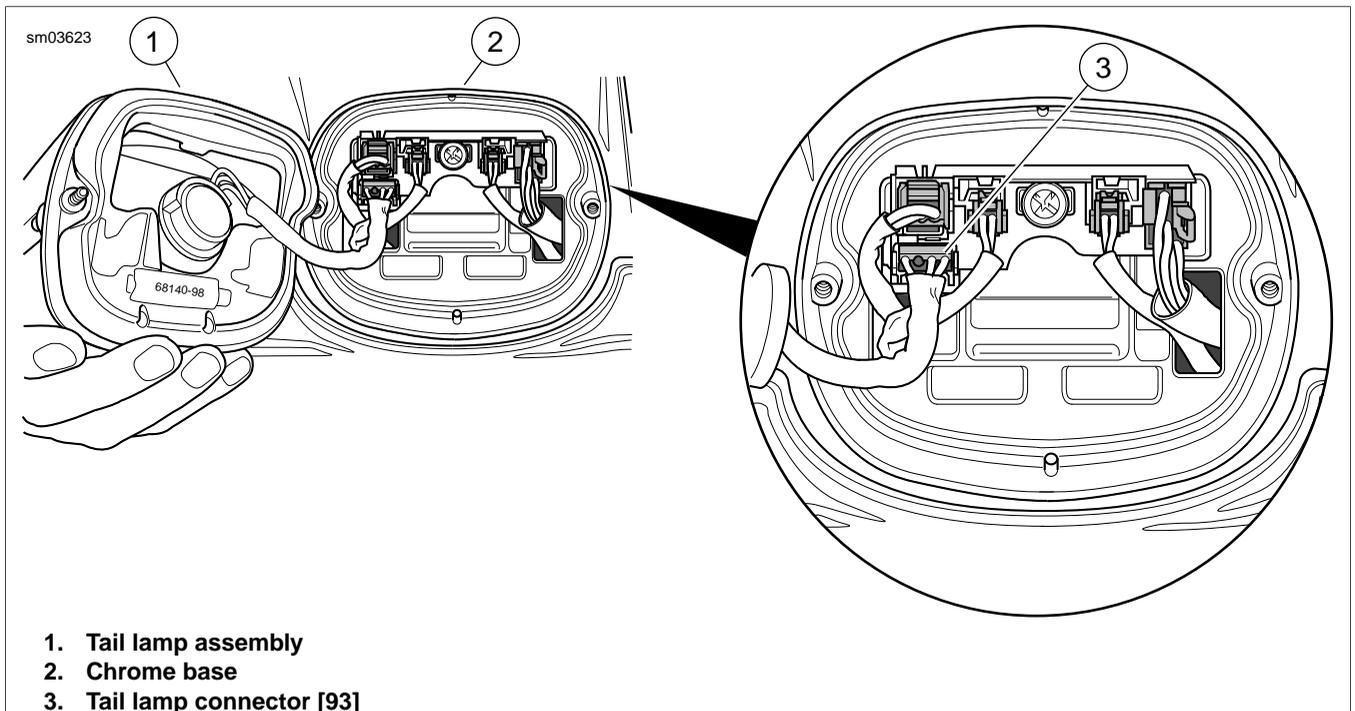

Figure 8-31. Remove Tail Lamp and Depress Button to Release Socket Housing
1. Remove two screws from lens to release tail lamp assembly from chrome base. See left side of Figure 8-31.
2. Disconnect tail lamp connector [93], 4-place Multilock. See right side of Figure 8-31.
2. Connect tail lamp connector [93], 4-place Multilock. See right side of Figure 8-31.
1. Remove two screws to release tail lamp assembly from chrome base. See left side of Figure 8-31.
7. To avoid stressing wires, verify that tail lamp conduit is positioned on the outboard side of the rear fender tip lamp and left turn signal lamp conduit as shown in Figure 8-31.
2. See Figure 8-31. Remove two screws to release tail lamp assembly from chrome base.
7. To avoid stressing wires, verify that tail lamp conduit is positioned on the outboard side of the rear fender tip lamp and left turn signal lamp conduit as shown in Figure 8-31. Place tail lamp into position against chrome base.